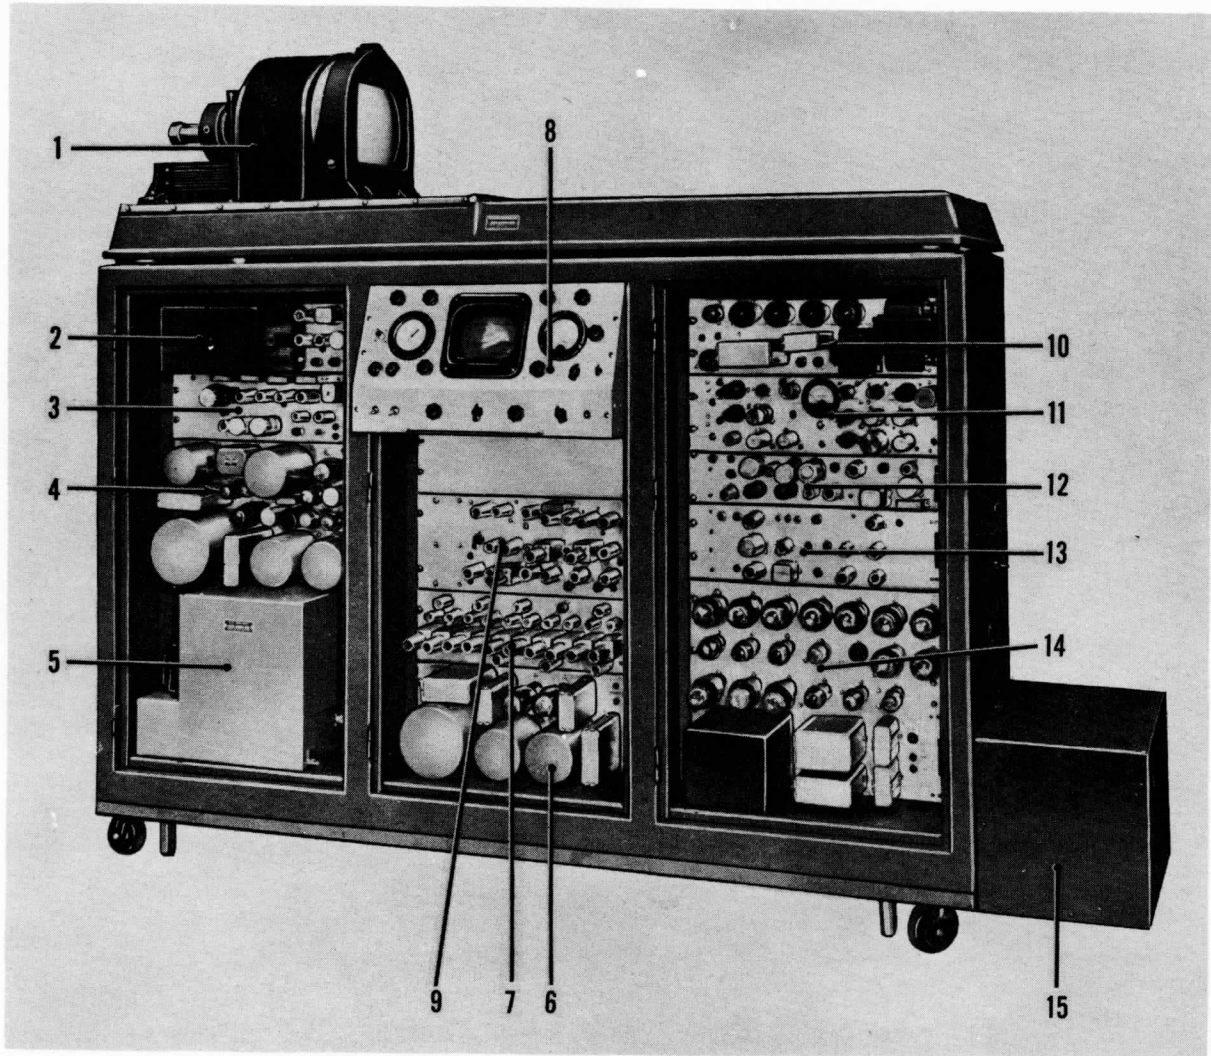

Figure 1-3. Video Recording Monitor, Sub-Chassis Locations
- Fig. 1-3. Video Recording Monitor, Sub-Chassis Locations
Legend for Figure 1-3:
a. Waveform Monitor and Control Panel (see figure 1-3, item 8)
(19) "VACUUM PRESSURE" Control.--A screw-knob and adjustment on the vacuum regulator permits bleeding and control of the vacuum pressure when necessary. It is located in the upper right-hand corner of the Videogam Power Supply compartment (figure 1-3, item 10).
(20) PHOTOGRAPHIC MONITOR.--The VIDEO SIGNAL switch permits direct-positive or negative film recording in the "Pos." and "Neg." positions, respectively.
a. Horizontal Deflection Chassis (see figure 1-3, item 2)
b. Vertical Deflection Chassis (see figure 1-3, item 3)
c. ± 150 Volt Power Supply (see figure 1-3, item 4)
f. Waveform Monitor and Control Panel Unit (see figure 1-3, item 8)